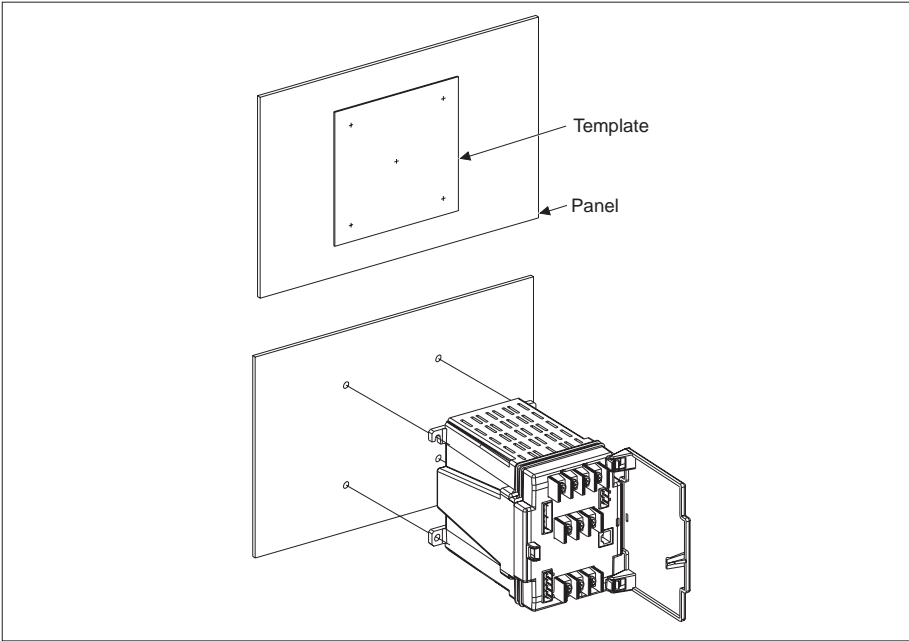
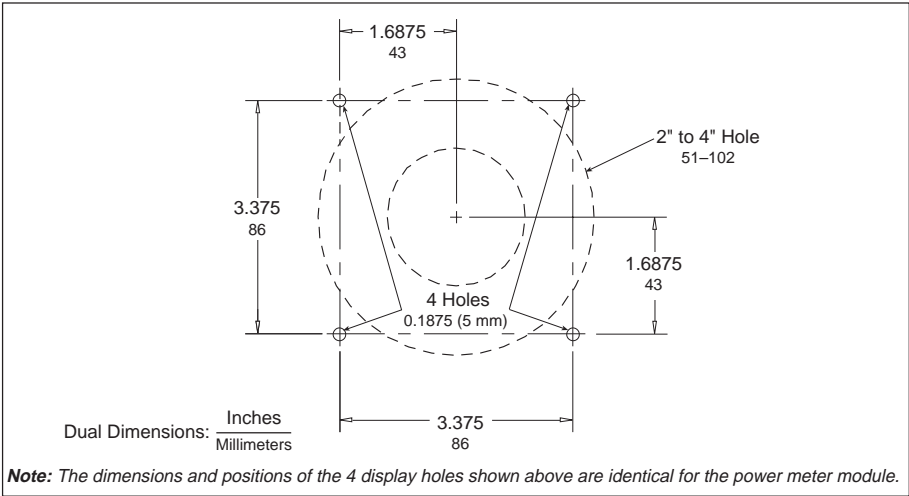

Figure 4-2: Mounting power meter on panel with no existing cutout
Figure 4-3: Panel mount for the power meter display
- perpendicular, mounted on side pan (figure 4-2, page 17)
2. Tape the template shipped with the display to the panel in the desired location; make sure the template is level. (Hole positions and dimensions are shown in figure 4-3, page 17.) Make sure no wires or equipment on the other side of the panel will be damaged, then drill through the panel at the 4 holes marked *A* on the template. Use a 3/16" drill bit.
3. Tape the template shipped with the module to the panel in the desired location (see figure 4-2, page 17); make sure the template is level. (Hole positions and dimensions are shown in figure 4-3, page 17.) Make sure no wires or equipment on the other side of the panel will be damaged, then drill through the panel at the 4 holes marked *A* on the template. Use a 3/16" drill bit.